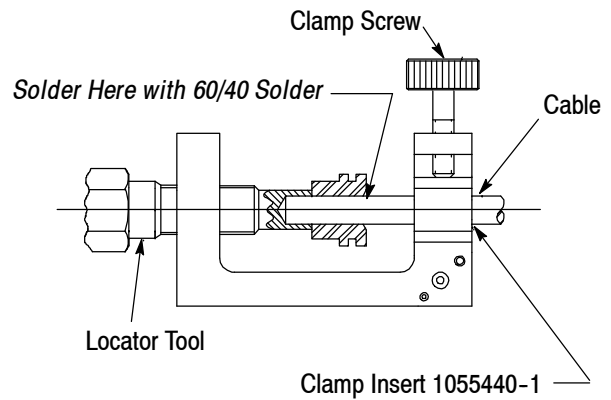

Figure 4
2.2. Soldering Cable to Plug Housing (Figure 4)
4. Hold the the housing firmly against the locator tool and solder as shown in Figure 4 with 60/40 solder.